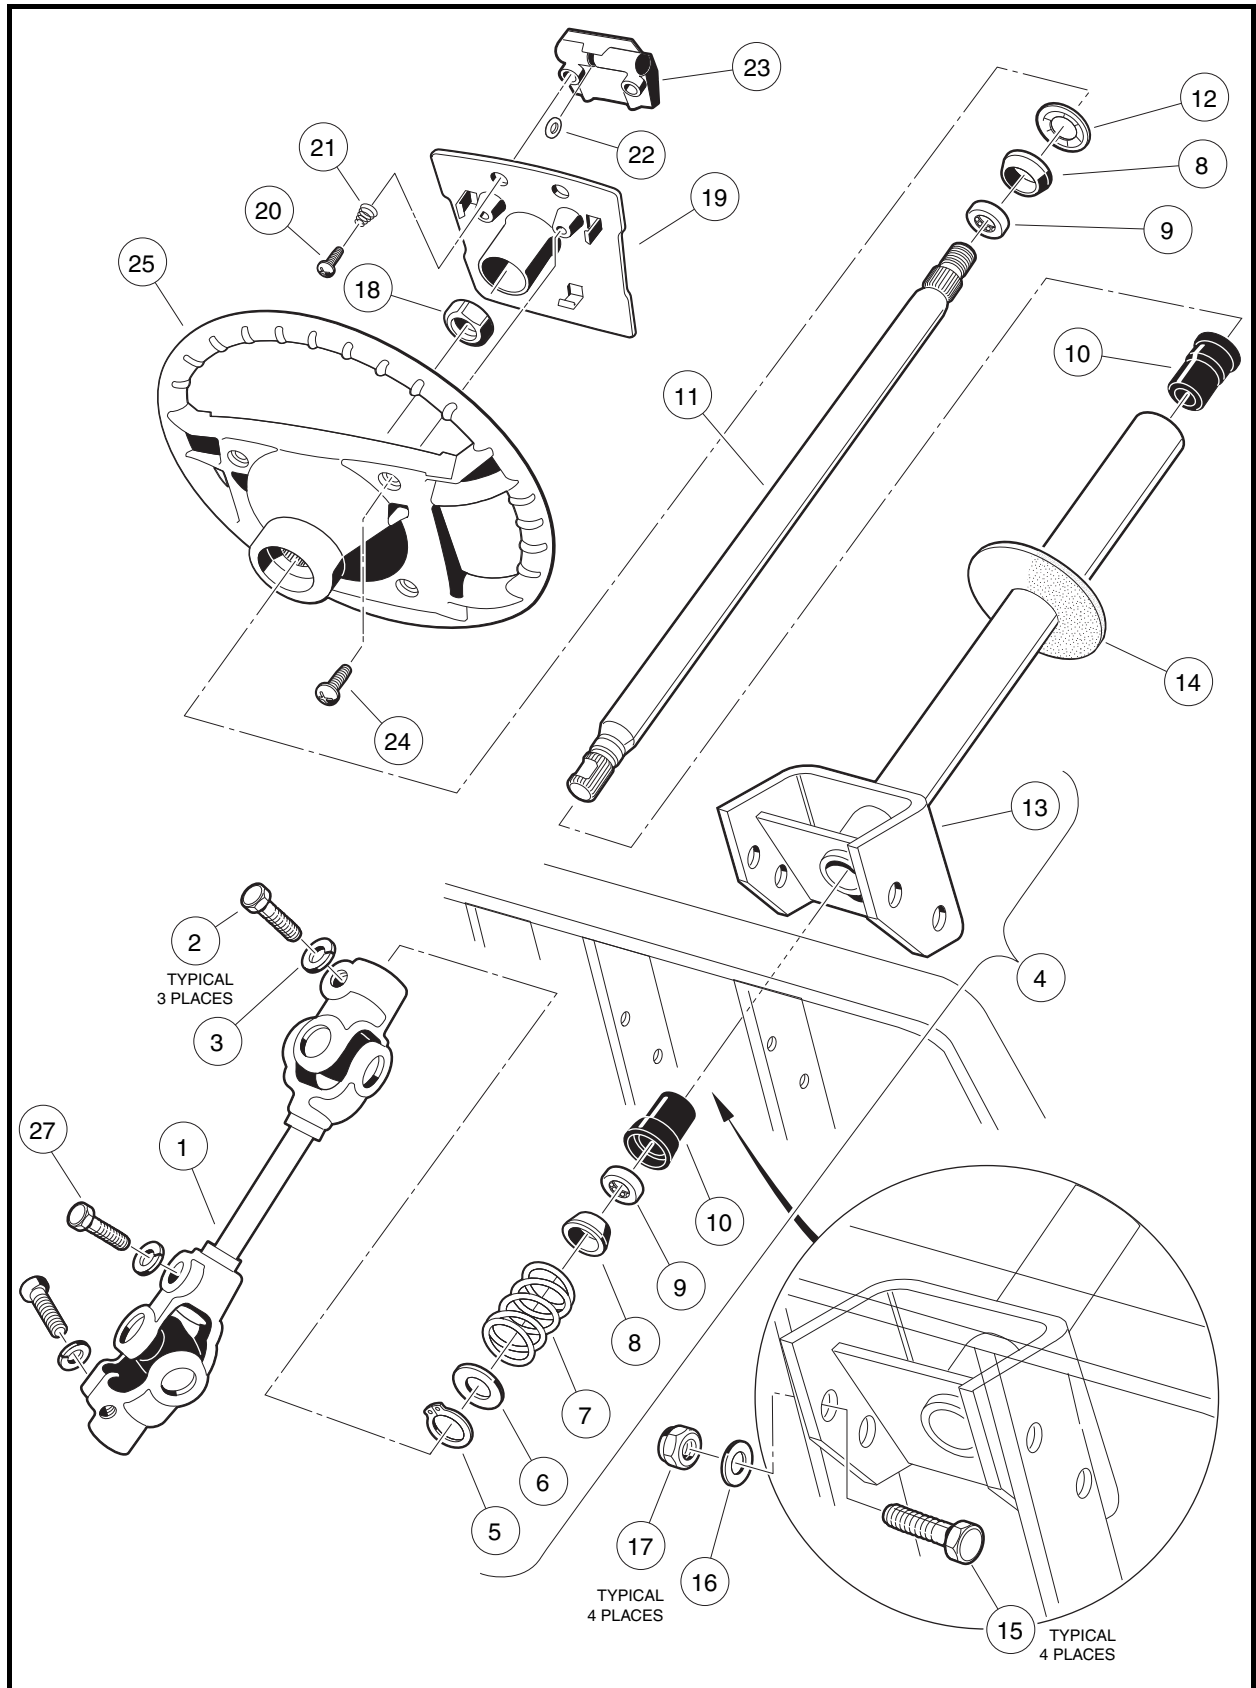
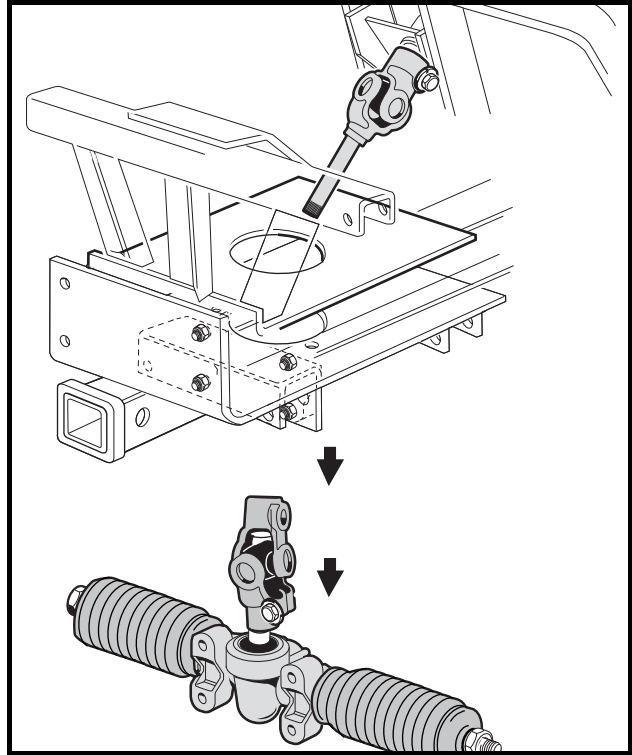

Figure 7-3 Steering Column
Figure 7-8 Remove Rack and Pinion
3. Remove the two mounting screws (24) and plate (19) (**Figure 7-3, Page 7-2**).
4. Match mark the steering wheel (25) and steering column shaft (11) for installment positioning.
5. Loosen the steering wheel nut (18) and back it off approximately 1/4-inch (6 mm). Do not remove the nut.
1. Install the steering wheel (25) on the splines of the steering shaft (11) (**Figure 7-3, Page 7-2**). Align the match marks placed on the wheel and steering column shaft in step 4, Steering Wheel Removal on page 7-1.
2. Install the steering wheel nut (18) and tighten to 13 ft-lb (17.6 N·m).
3. Install the steering wheel plate (19) and mounting screws (24) and tighten screws to 16 in-lb (1.8 N·m).
6. Remove the upper bolt (2) and lockwasher (3) from the steering universal joint (1) (**Figure 7-3, Page 7-2**).
7. Remove the nuts (17), bolts (15) and washers (16) from the steering column mount (13) (**Figure 7-3, Page 7-2**).
8. Disconnect the steering universal joint (1) from the steering column shaft and remove the steering column from the vehicle (**Figure 7-3, Page 7-2**).
1. While supporting steering column (13) on a workbench, remove snap ring (5) from shaft (**Figure 7-3, Page 7-2**).
2. Remove the washer (6), spring (7), and wedge (8) (**Figure 7-3, Page 7-2**).
3. Turn the steering column over and slide the shaft out of the tube to expose the retaining ring (12). Use pliers to twist the retaining ring (12) until it breaks off, then remove the wedge (8).
4. Remove the shaft (11) from the bottom of the tube (13).
5. Use steering shaft (11) to push bearing seat (10) out from the opposite end of the steering tube (13).
6. Insert a flat blade screwdriver between the bottom of the outer race of the bearing (9) and the bottom lip of the bearing seat (10) and remove the bearing (9).
4. Insert the shaft (11) from the bottom of the steering tube (13) (**Figure 7-3, Page 7-2**).
1. Install boot (14) (if previously removed) (**Figure 7-3, Page 7-2**).
3. Position the steering column assembly in the vehicle while inserting the steering column shaft into the upper steering universal joint (1). The flat portion of the steering shaft spline (11) must be aligned with the bolt hole in the steering universal joint (1) before sliding the spline into place (**Figure 7-3, Page 7-2**).
5. Hold the steering column in place and attach it to the frame using bolts (15), washers (16) and locknuts (17) (**Figure 7-3, Page 7-2**). Tighten the four bolts, in a crisscross pattern, to 23 ft-lb (31.2 N·m).
6. Tighten the bolt (2) on the upper steering universal joint (1) to 15 ft-lb (20 N·m).
7. Check the other bolts (27) on the lower steering universal joint assembly (1) to ensure that they are properly tightened to 15 ft-lb (20 N·m) (**Figure 7-3, Page 7-2**).
7. Remove the bolt (27) and lockwasher (**Figure 7-3, Page 7-2**) from the universal joint, then remove the rack and pinion assembly and universal joint from the vehicle (**Figure 7-8, Page 7-7**).